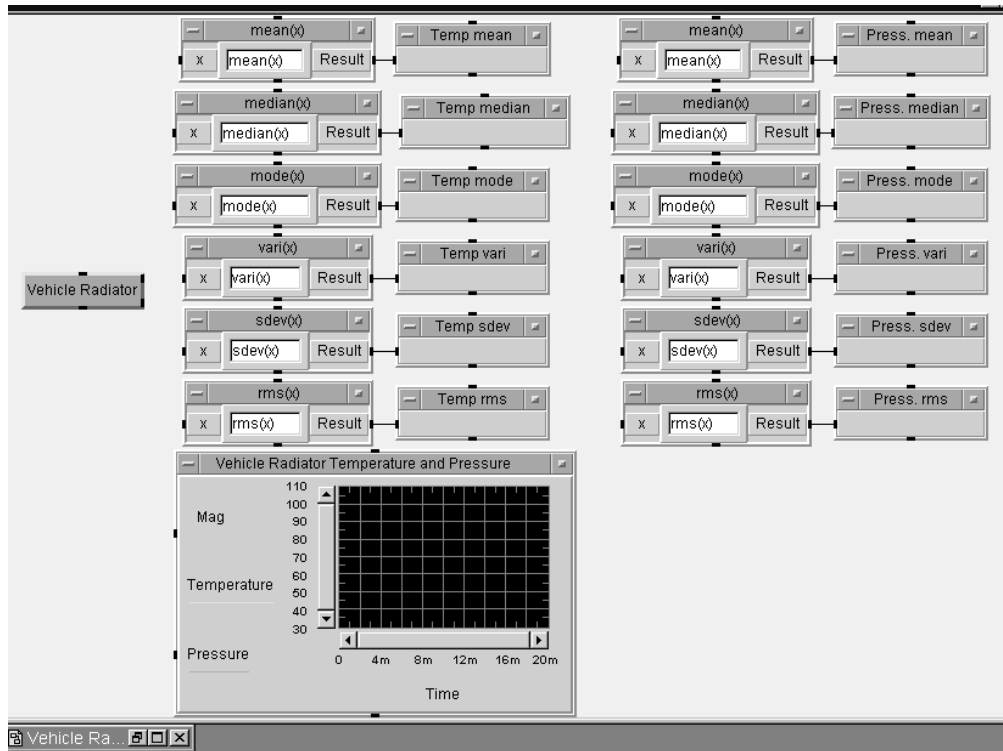

Figure 7.7. Initial positioning of all objects
11. Select Edit => Paste; place the twelve objects to the extreme right of the ones you copied. See Figure 7.7.